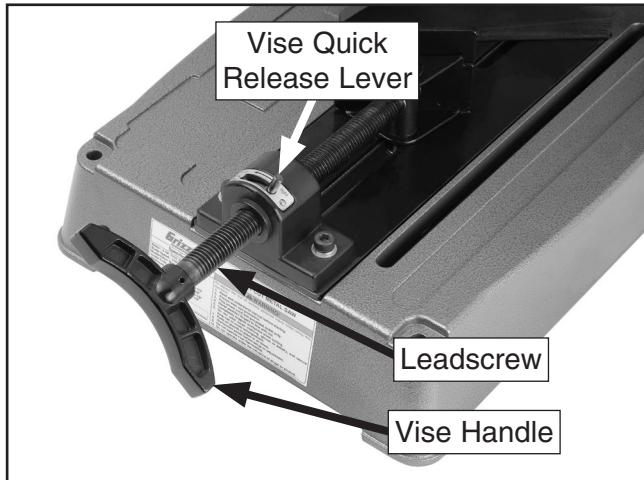

Figure 10. Vise quick release lever.
1. Move the vise quick release lever to the left ("loose") position. This releases the leadscrew and allows the vise clamp to slide as needed (**Figure 10**).